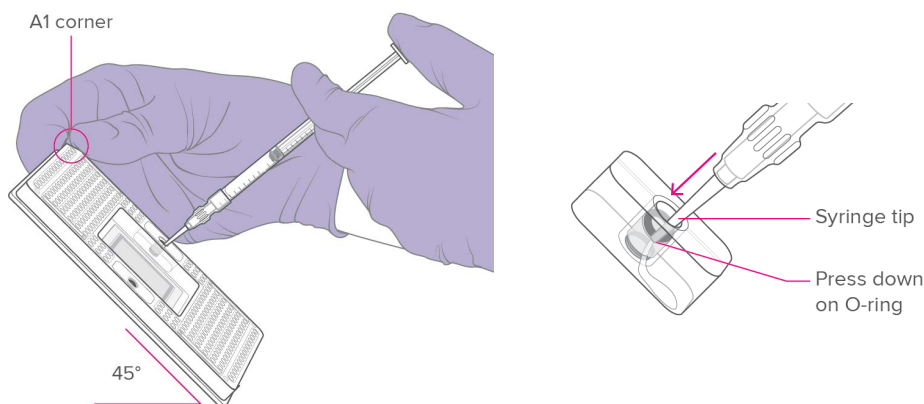
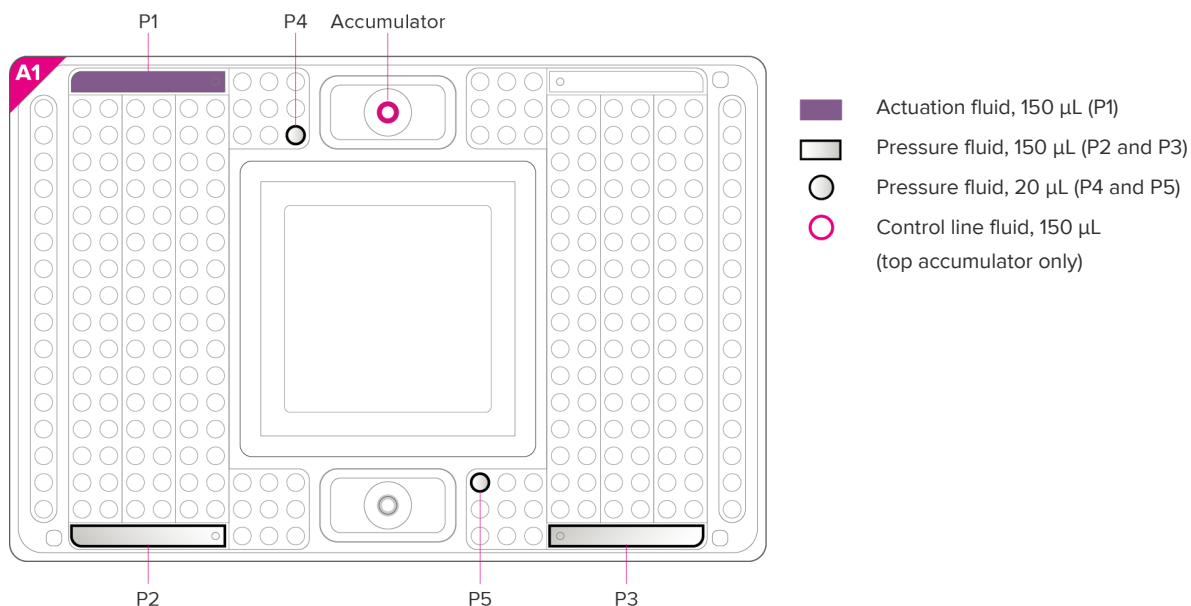

Figure 4. Injecting control line fluid into the accumulator
Figure 5. Priming map for the GE 24.192 IFC
- 2 Inject control line fluid into top accumulator on the IFC (see Figure 5). Use the entire contents of the syringe in the accumulator. Holding the IFC at a 45-degree angle, use the syringe tip to gently press down on the black O-ring to move it, insert the tip to one side of the accumulator, and then release the fluid (see Figure 4).
- 4 Pipet 150 μL of Actuation Fluid into the P1 inlet (see Figure 5).
- 5 Pipet 150 μL of Pressure Fluid into the P2 and P3 reservoirs, respectively (see Figure 5). Ensure that the Pressure Fluid covers the reservoir bottom.
- 6 Using a P-20 pipette, load 20 μL of Pressure Fluid slowly into the P4 and P5 inlets, respectively (see Figure 5). Ensure that the fluid covers the inlet bottom.